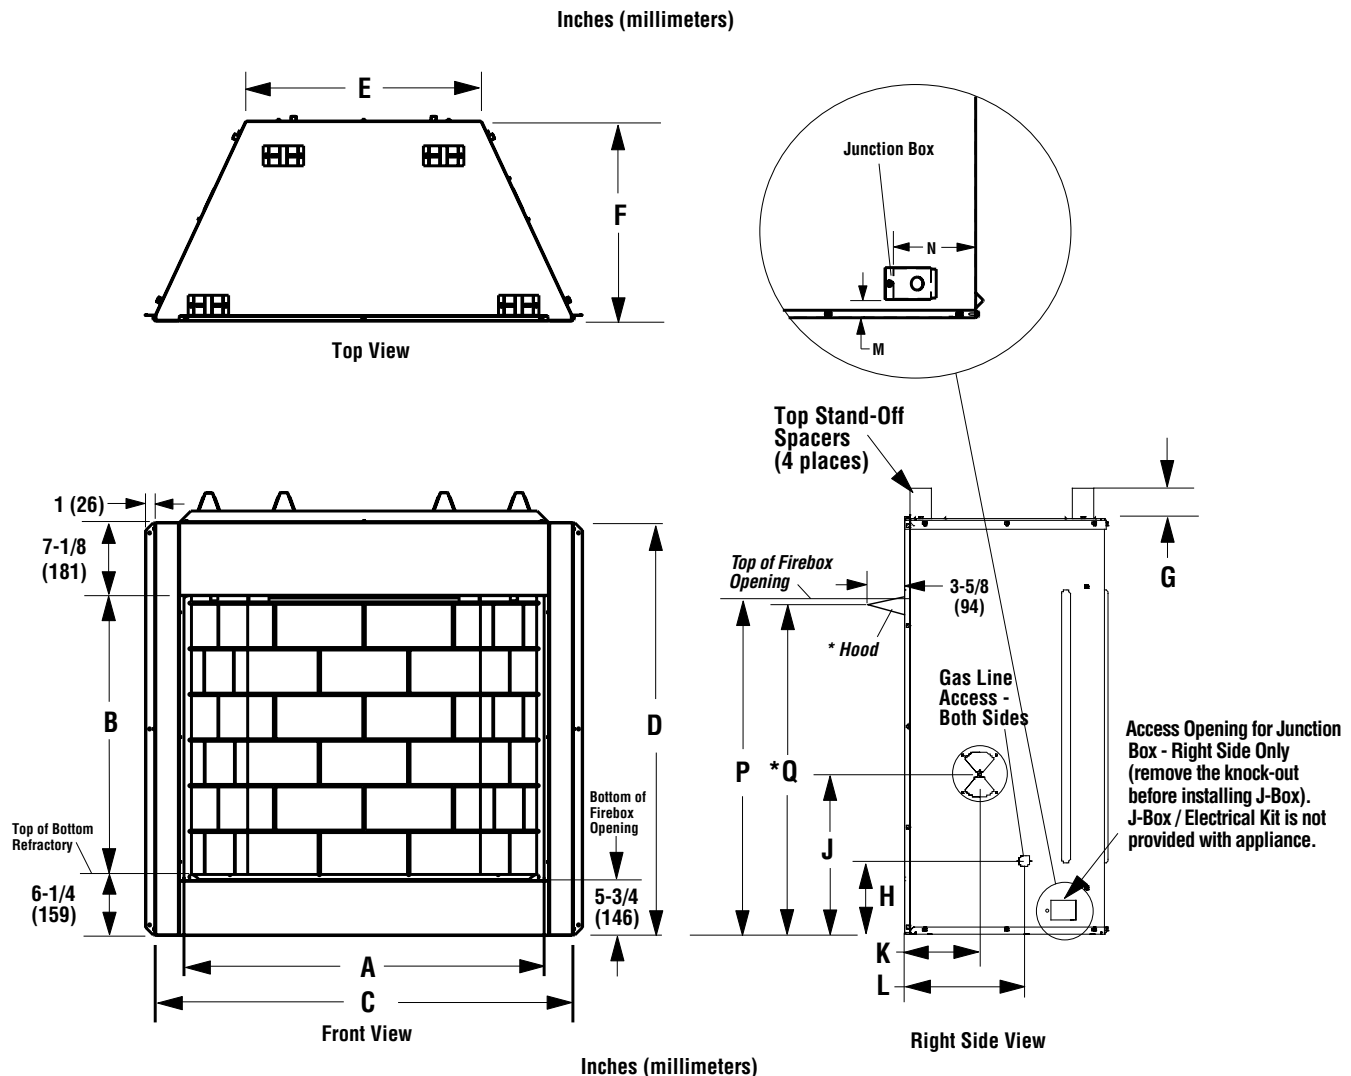

Figure 7
Remove the gas line access cover plate on either the left or right side of the fireplace (see **Figure 7** showing locations).
Construct firebox framing following **Figures 8 through 10** and **Table 1** on **Page 11** for your specific installation requirements. Refer to **Figure 7** on **Page 10** for firebox dimensions.
Under no circumstances shall the firebox top spacers be removed or modified (see *Figure 7*). The header may be in direct contact with the top spacers but must not be supported by them, notched or altered to fit around them.
Step 2. Remove the rectangular knock-out (for J-Box) on the right side of unit (see **Figure 7** for location). Install the Junction Box & Electrical outlet below the firebox floor into the rectangular opening on the right side cabinet panel where you removed the knock-out (see **Figures 18 and 19**).